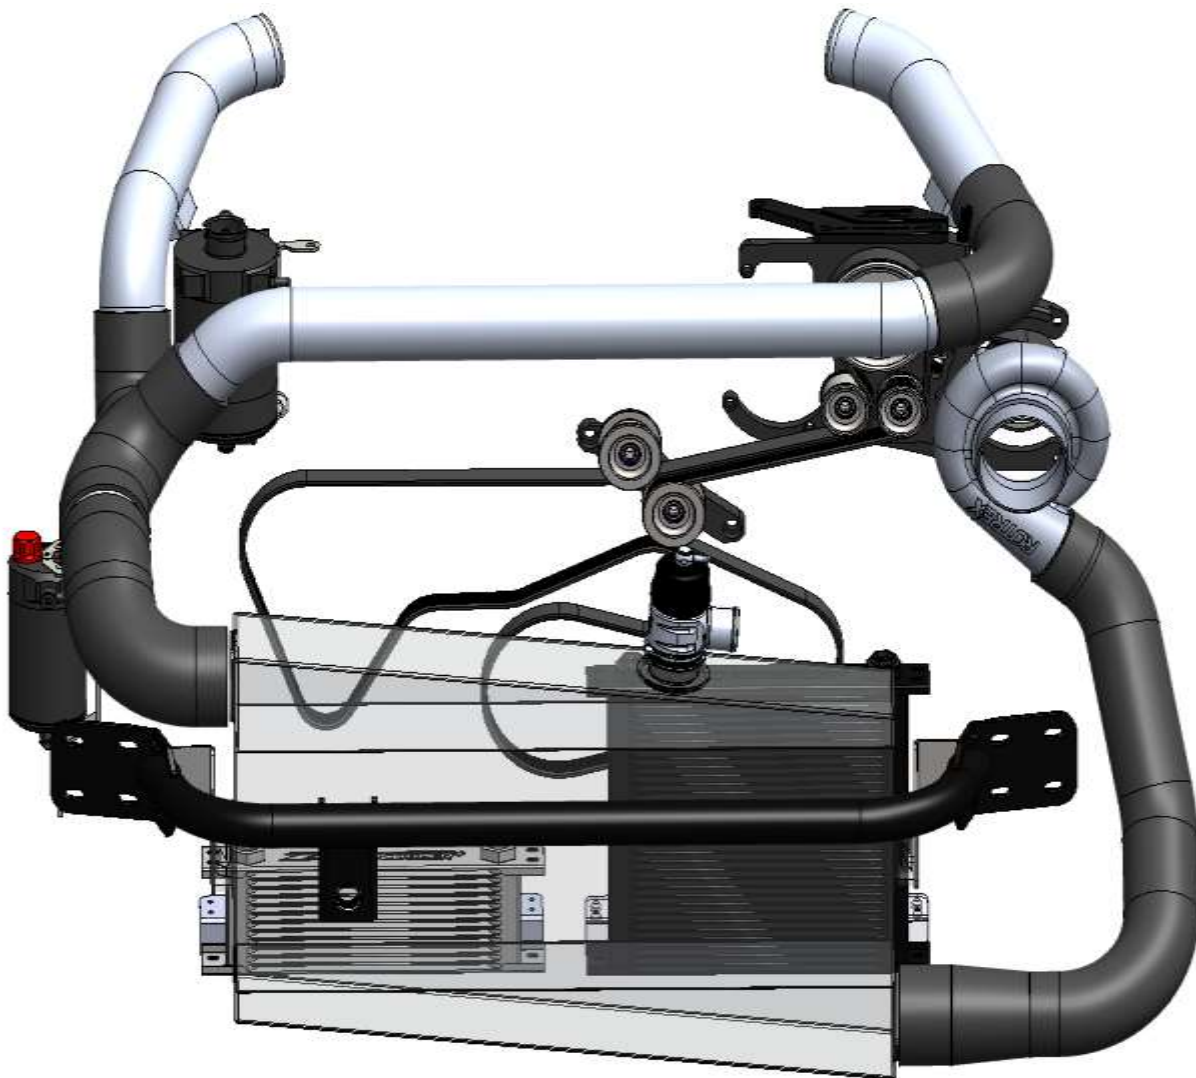

Figure 47
7. Locate the Aluminum Charge Pipe Set (#2), Silicone Coupler Kit (#3), (2) two Silicone Reducer Hoses (#4), and all (13) thirteen T-bolt clamps (#54-56).
8. Remove the (2) two Intake Tubes from the Charge Pipe Set box. Transfer over the MAF sensors from the OEM intakes into the new Z1 Charge Pipes.
9. Install the (2) two small Silicone Reducer Couplers onto the OE Throttle Bodies. The larger side will be on the Throttle Bodies with a medium (73mm-81mm) T-bolt Clamp on each.
10. Install the rest of the Charge Pipes and Silicone Couplers as shown in the diagram below. The Outlet (passenger side) of the Intercooler will use the 3" Silicone Elbow connected to the 3" Metal Joiner, and then connected to the single side of the Silicone Y-Coupler. *Figure 47.*